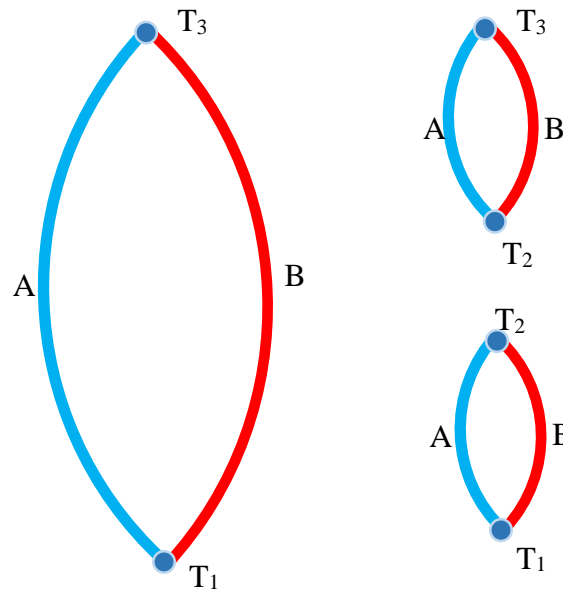

Fig. 3
(1) Law of Intermediate Metals: The presence of an additional metal into any circuit does not alter the whole e.m.f. in the circuit, provided the additional metal is at the same temperature of the point at which it is inserted.
(2) Law of Intermediate Temperatures: The e.m.f. of a couple with junctions at T_1 and T_3 is the sum of the e.m.f. of two couples of the same metals, one with junctions at T_1 and T_2 and other at T_2 and T_3 as shown in Fig. 3. In other words, e.m.f.